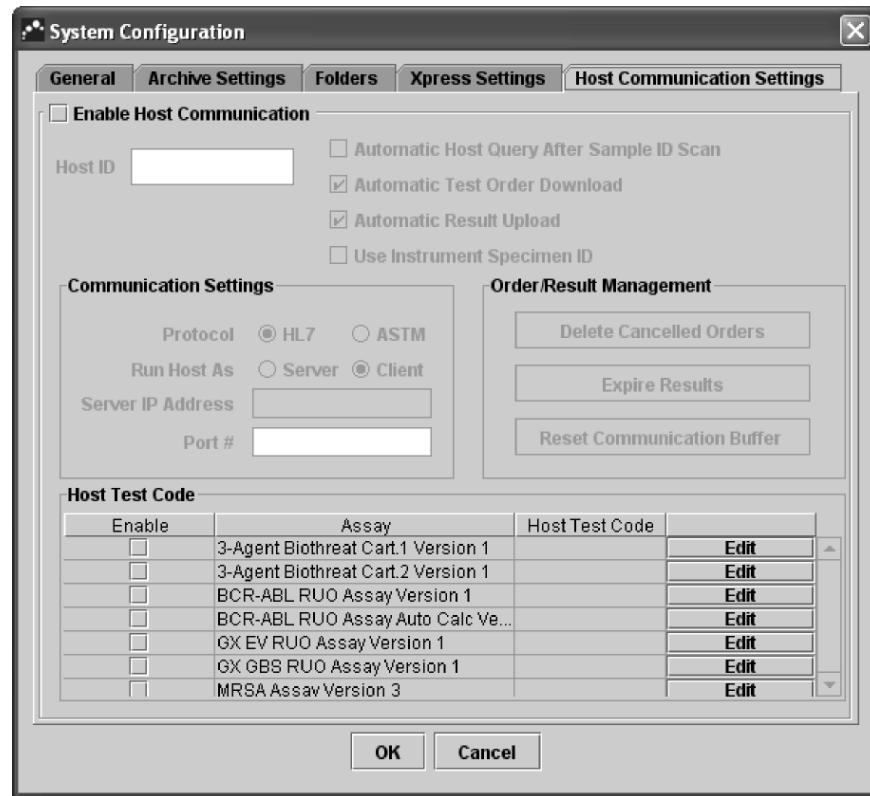

Figure 2-28. System Configuration dialog box (Host Communication Settings window)
2. Click the Host Communication Settings tab. The Host Communication Settings window appears (Figure 2-28).